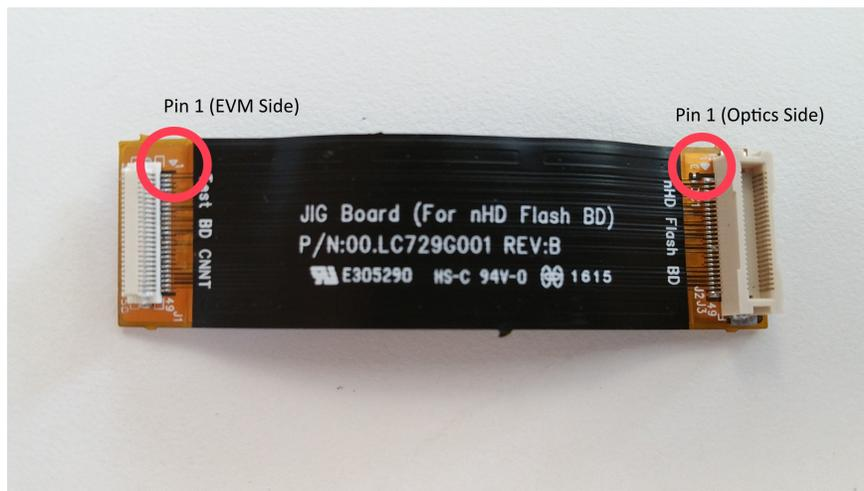
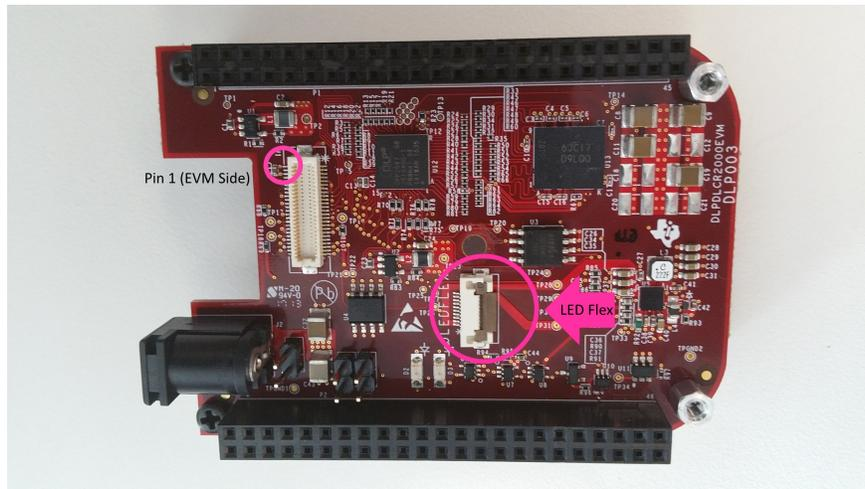

Figure 2. Overview of Flex Cable Pinout for 0.2 nHD Optical Engine
Figure 4. Overview of Board Pinout
- (b) Align "pin 1" of the DMD data flex cable (male side) to the DLP LightCrafter Display 2000 board (at connector J1). Figure 2 through Figure 4 are provided to assist in proper assembly of the board with the optical engine.